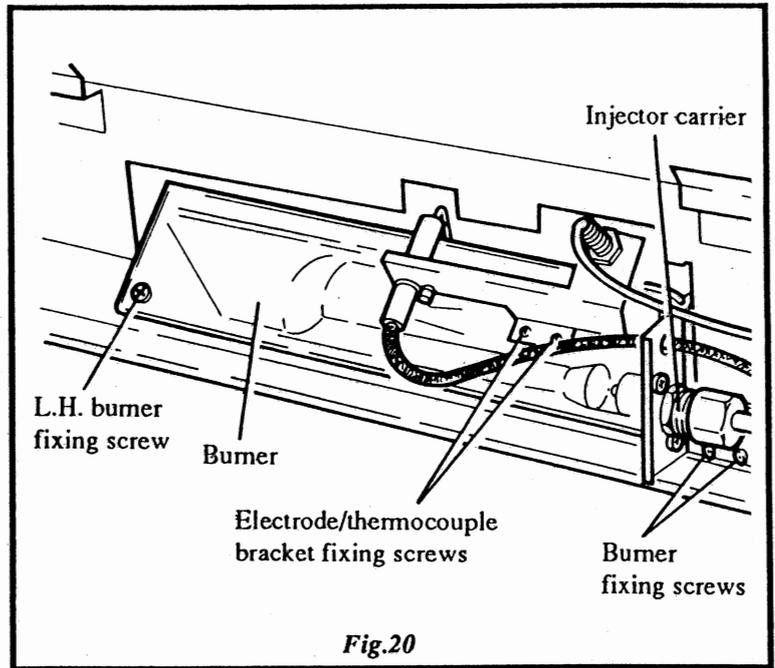

Fig.20
2. Undo the union nuts at the tap and injector carrier then remove the pipe. Unscrew the injector carrier, (to provide access for a spanner it may be necessary to remove the screw just above the injector carrier, see Fig. 19). Remove the two screws securing the electrode/thermocouple bracket to the burner. Remove the L.H. fixing screw and the two screws securing the burner to the location bracket then lift the burner away from the fire. See Fig 20.
12.5 To replace the burner - see Fig. 20.
2. Undo the union nuts at the tap and injector carrier then remove the pipe. Unscrew the injector carrier, (to provide access for a spanner it may be necessary to remove the screw just above the injector carrier, see Fig. 20).